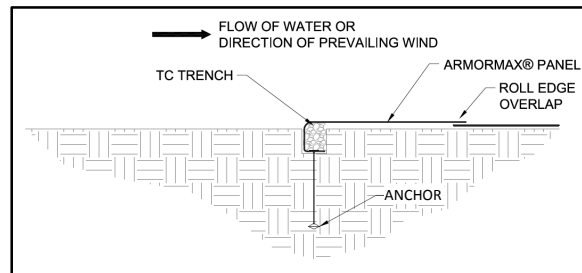

Figure 19: Terminal Channel (TC) Trench Complete
17. Backfill and compact the TC trench (Figure 19).
18. Fold the ARMORMAX panel over the top of the compacted TC trench ensuring a minimum 3 inch (75 mm) overlap and place each panel end into the respective COS trenches (Figure 19).